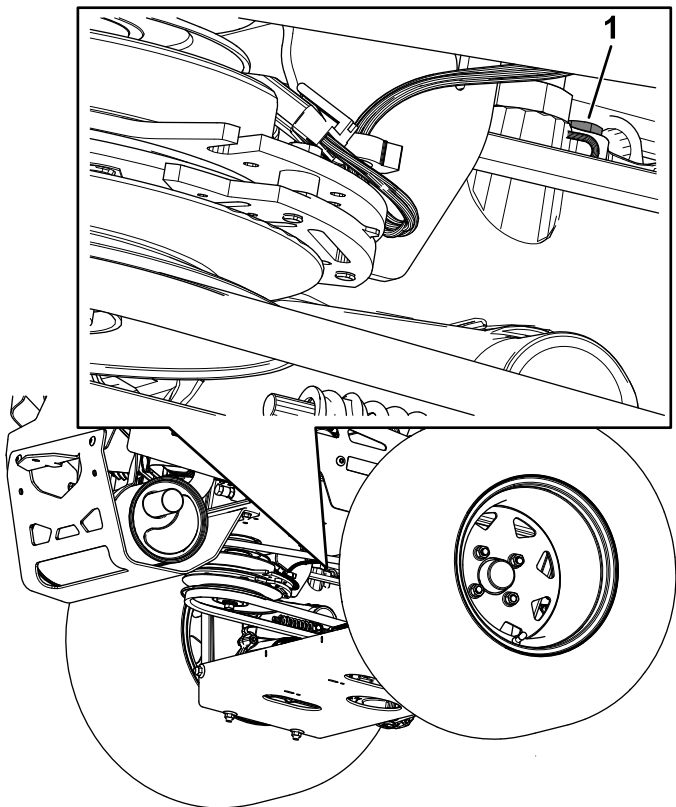

Figure 73
- For ZT 5400 Hydros, use a 7/16-inch wrench to access the vent plug from underneath the machine (Figure 73).